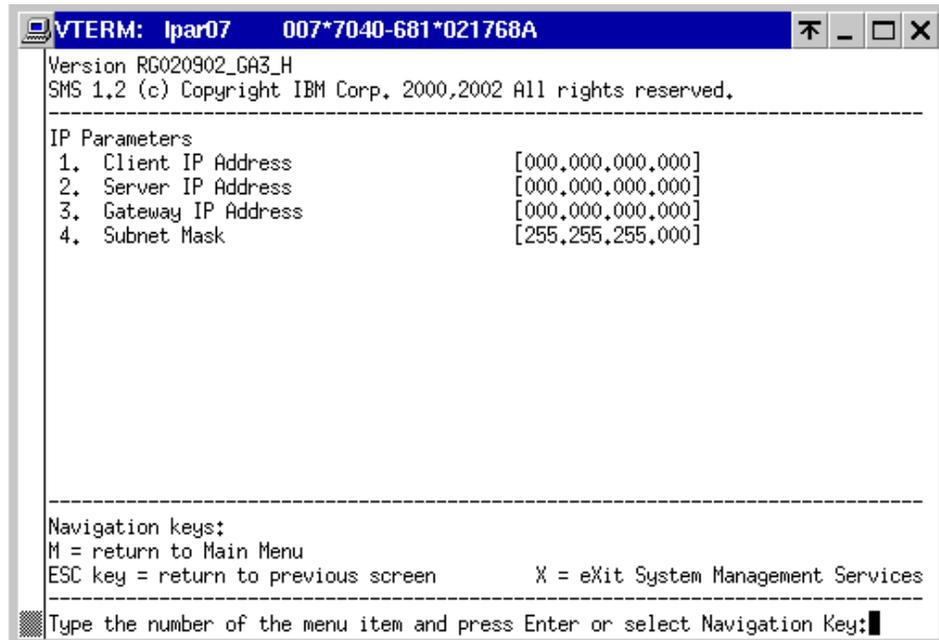

Figure 7-13 System Management Services: IP Parameters screen
11. Press 1 to select **1. IP Parameters**. Specify the appropriate IP address of the partition to be installed, NIM master, default gateway, and subnet mask in the screen, as shown in Figure 7-13.
- Whether you have specified correct IP addresses in Figure 7-13 on page 227.